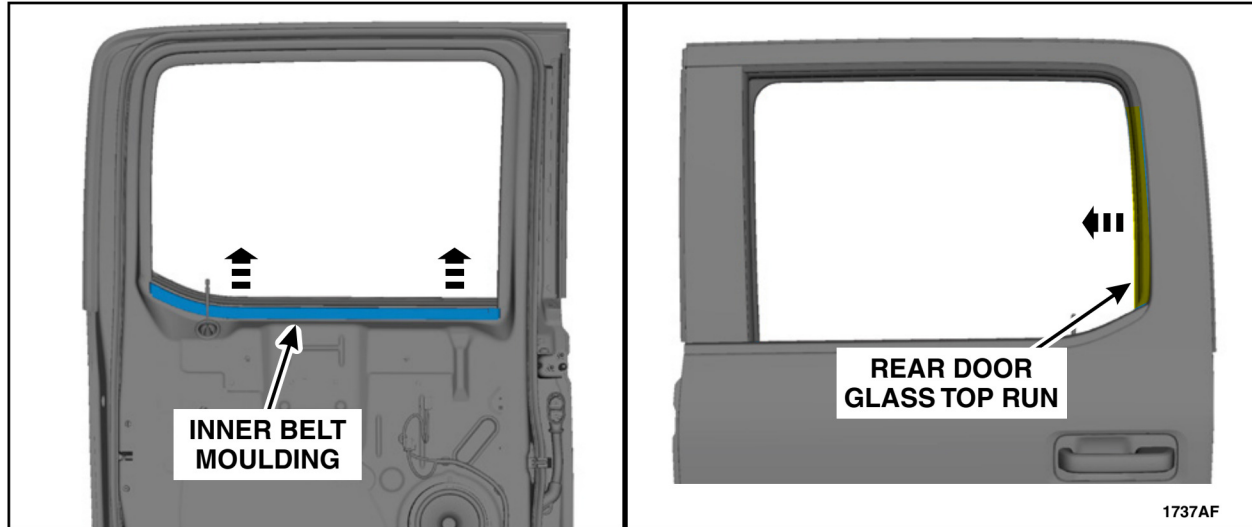

FIGURE 32
See Figure 32.
30. Reinstall the latch side door glass top run and door inner belt moulding. See Figure 32.